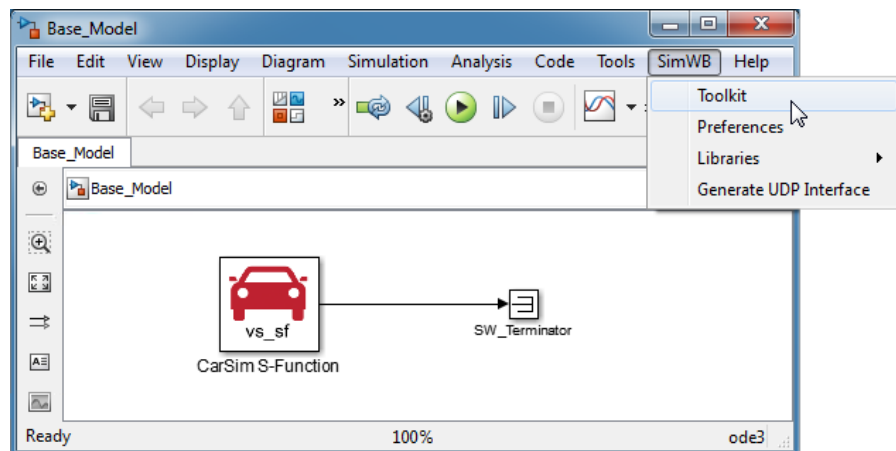
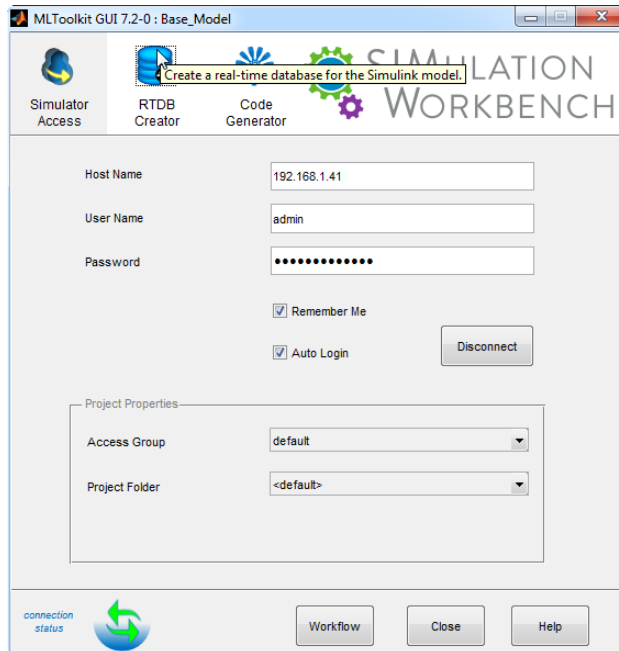

Figure 10. How to access to SimWB Toolkit from Simulink.
Figure 11. SIMulation Workbench pop-up window
1. In Simulink, click **SimWB** > **Toolkit** (Figure 10). This opens SIMulation Workbench (Figure 11). Type the real-time hostname, your SimWB username, and the password. Click **Connect** button. This will change the connection status at the button left from disconnect (the red with x) to connect (two green arrows).